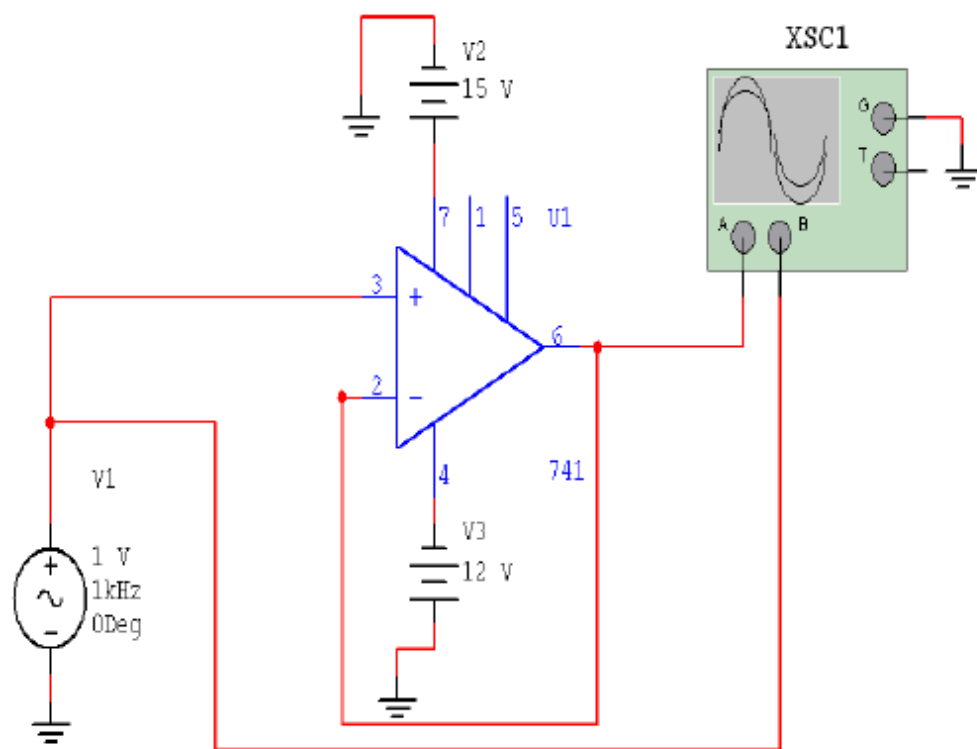

Fig.14 Buffer Operational Amplifier
- Construct the circuit shown in Fig.14.